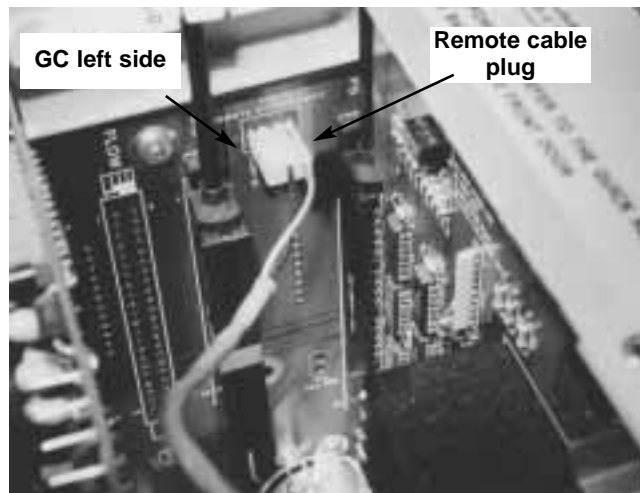

Fig 3.11 The remote start cable has been installed. The lead should be directed out through the rear of the GC.
11. Plug the appropriate end of the remote cable (782011) onto the pins on the GC control board. See **Figure 3.11**. Feed the cable out to the rear of the GC so that it can be later plugged into the rear of the S.P.T.D. controller.